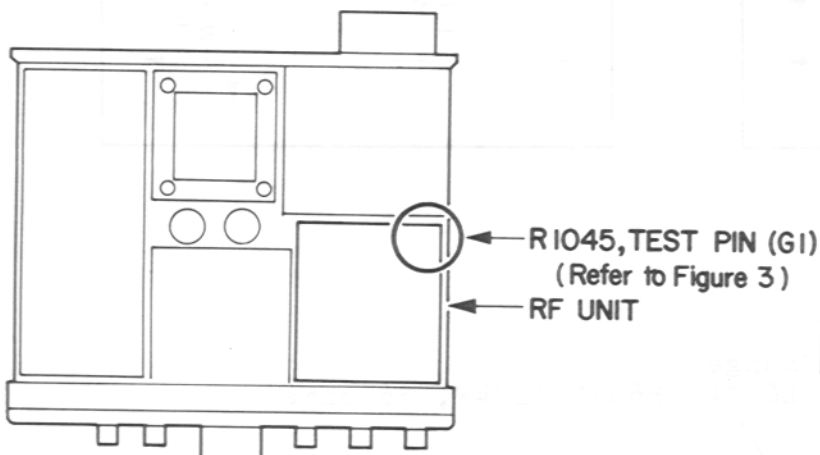

Figure 1
1. On the component side of the RF Unit, install a $1\ \mu\text{F}$, 50 WV electrolytic capacitor, as shown in Figures 1 and 2. The positive lead of the capacitor is soldered to the lead of R1045, and the negative lead to the TEST PIN (G1).